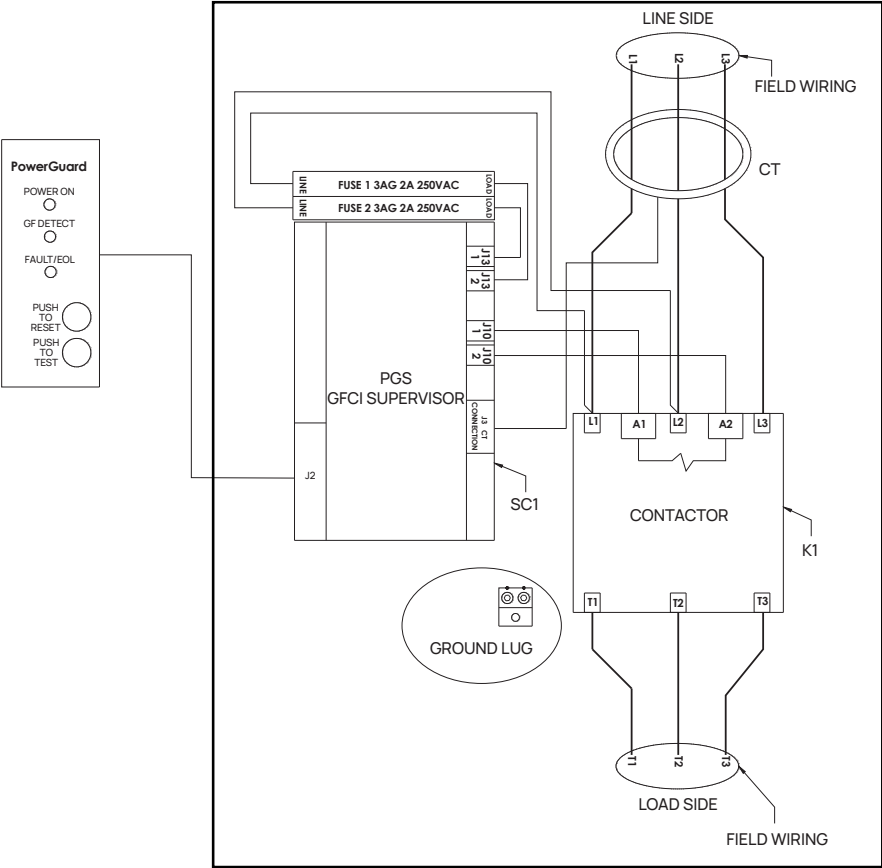

Figure 3
1. Connect the PowerGuard GFCI in series with the protected circuits/devices. Refer to Figure 3 for the proper wiring diagram for single and 3 phase 208V wiring. Line side wiring refers to the current carrying conductors between the breaker panel and the GFCI, and load side wiring refers to the current carrying conductors between the GFCI and the protected branch circuits/devices.